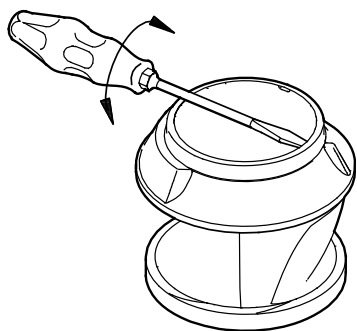

Fig. 5 Removing the wear ring
4. Remove the impeller wear ring (49c) with a screwdriver (H). See fig. 5.